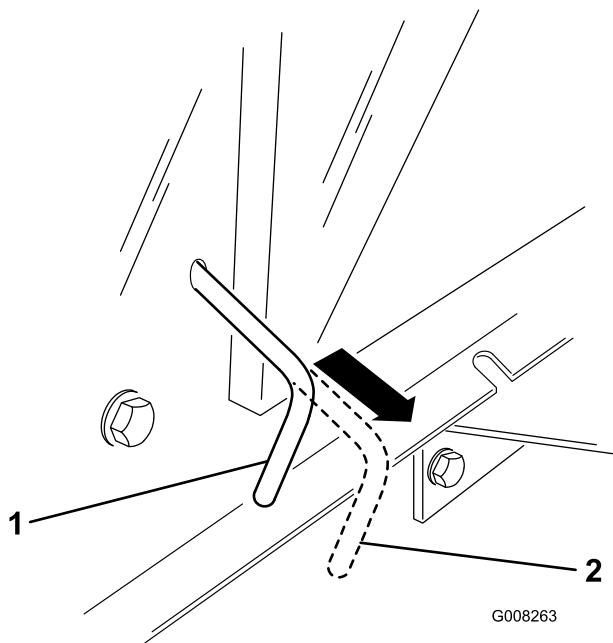

Figure 15
Note: This disengages the drive system and allows the wheels to turn freely (Figure 15).
2. Push the drive control in to the Operate position (Figure 15) to engage the drive system.